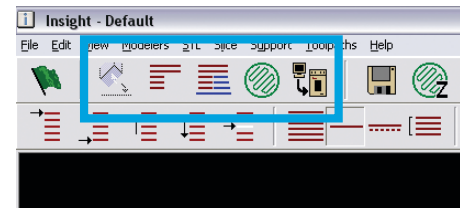

Figure 3: Orient, Slice, Support, Toolpath, and Build Icon Locations
STEP 4: Orient the STL Model (Figure 3)
STEP 5: Slice the STL Model (Figure 3)
STEP 7: Generate Supports (Figure 3)
STEP 8: Generate Toolpaths (Figure 3)
STEP 10: Send to the Pack and Download Window (Figure 3)